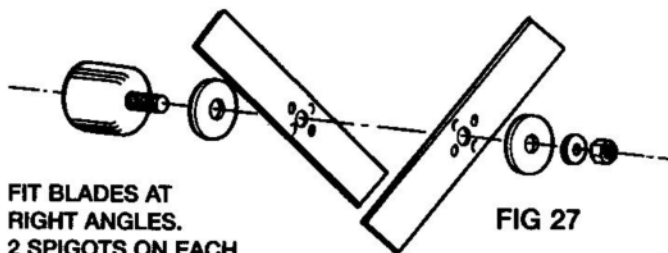

FIG 27
4. Remove one small washer, one large washer and two blades (Fig 27). Before installing blade and washers, clean all grit and grease. Assemble these parts clean and dry. Fit large washer, new blades with spigots of one blade interlocking with holes on opposite blade, large washer, one small washer, and nut. Tighten nut to 15-20 ft. lbs. (20-27Nm) or hand tight with 8" (200mm) or longer spanner.